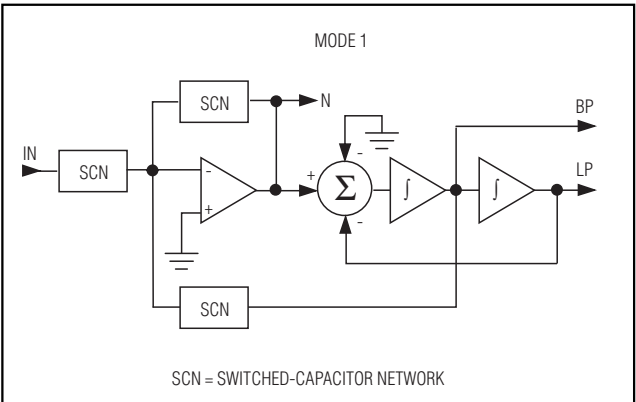

Figure 7. Filter Mode 1: Second-Order Bandpass, Lowpass, and Notch
Figures 7 through 11 show symbolic representations of the MAX260 filter modes. Only one second-order section is shown in each case. The A and B sections of one MAX260/MAX261/MAX262 can be programmed for
**MODE 1** (Figure 7) is useful when implementing allpole lowpass and bandpass filters such as Butterworth, Chebyshev, Basset, etc. It can also be used for notch filters, but only second-order notches because the relative pole and zero locations are fixed. Higher order notch filters require more latitude in  $f_0$  and  $1_N$ , which is why they are more easily implemented with mode 3A.
Mode 1, along with mode 4, supports the highest clock frequencies (see Table 1) because the input summing amplifier is outside the filter's resonant loop (Figure 7). The gain of the lowpass and notch outputs is 1, while the bandpass gain at the center frequency is  $Q$ . For bandpass gains other than  $Q$ , the filter input or output can be scaled by a resistive divider or op amp.